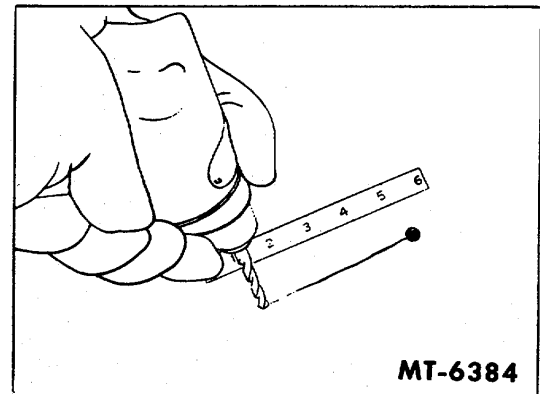

Fig. 5. Drilling at the crack ends to stop further cracking.
2. After locating the crack and its extent, drill one 1/8" hole at each end of the crack to prevent further progress of the crack. (Fig. 5).